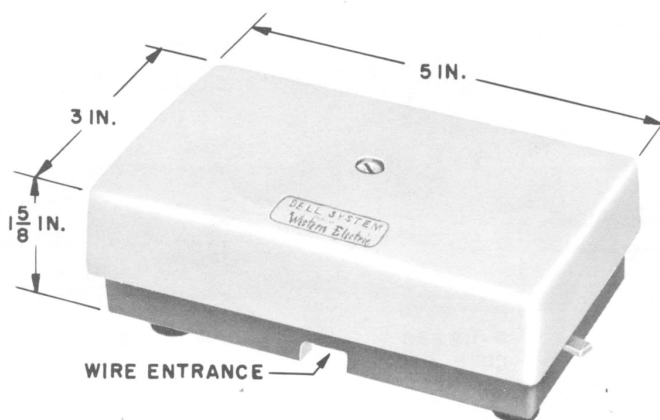

Fig. 1 — E1A Ringer, External View
2.04 The ringing mechanism, capacitor, and connecting block are all mounted on a gray metal base and enclosed with a blue-beige plastic cover (Fig. 1 and 2). The color code is -42.
4.03 The inside wire may enter the ringer from the back, bottom, or either end (Fig. 1 and 2).